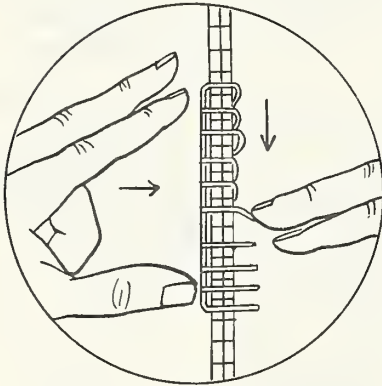

Fig. 5
6. From inside, bend down the ends of the wires toward the center of the hole. You may need someone outside to press against the patch while you do this. (Fig. 5)